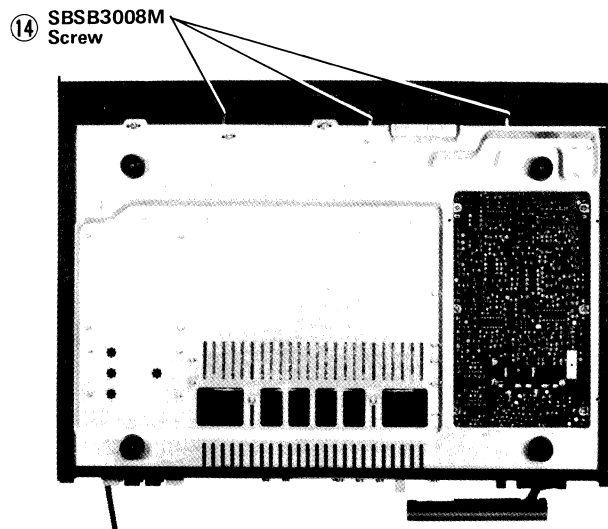

Fig. 6
1. Remove 4 screws (Item No. 12) from the both sides of chassis and remove 3 screws (Item No. 14) from the bottom. See Fig. 6.